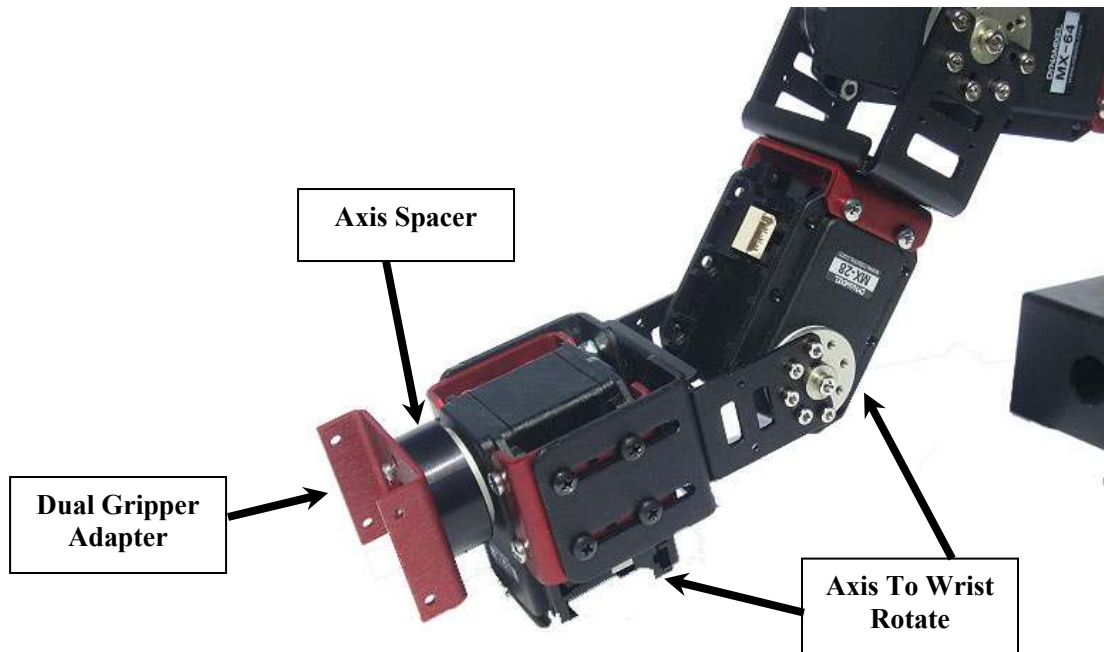

Figure 56
6. Install the assembly from the previous step to the servo arm assembly as shown in figure 56.